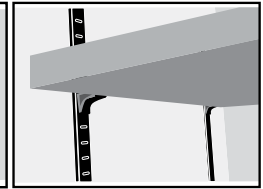

Figure 12.4
5. Install the shelf into position by placing inside the safe (tilting if necessary) and lowering into position on the support clips (Figure 12.4).